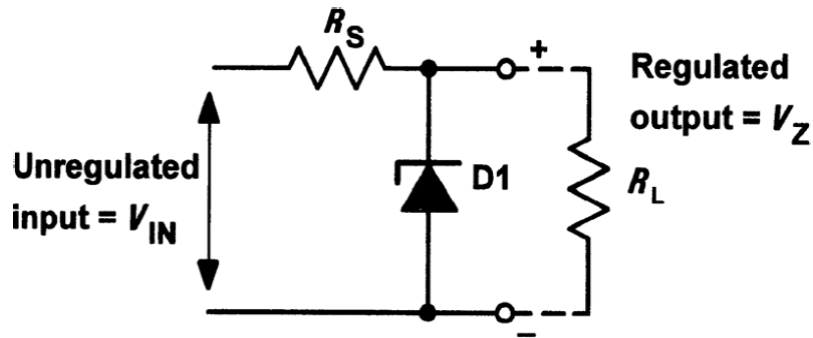

Figure 1.18 A simple shunt Zener voltage regulator
- A simple voltage regulator is shown in Fig. 1.18.
- The ladder arrangement shown in Fig. 1.18 can be easily extended to provide even higher voltages but the efficiency of the circuit becomes increasingly impaired and high-order voltage multipliers of this type are only suitable for providing relatively small currents.